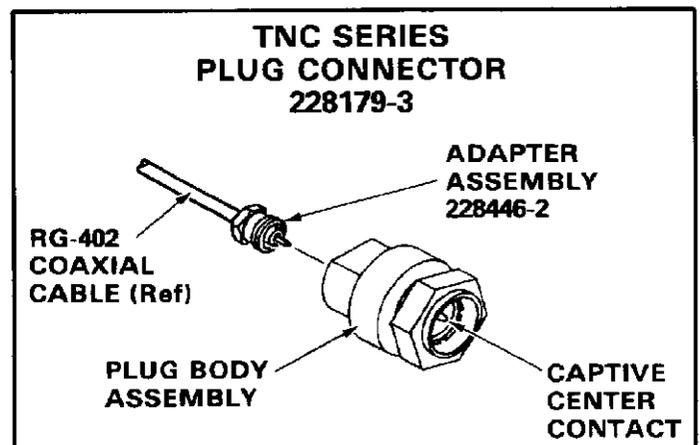

Fig. 2
This instruction sheet (IS) covers the installation and use of AMP Locators 312644-1 and 312645-1, shown in Figure 1. These locators are *required* in AMP hand tools and pneumatic tools being used to crimp TNC Series Plug Connector 228179-3 to RG-402 (.141) semi-rigid coaxial cable, shown in Figure 2.